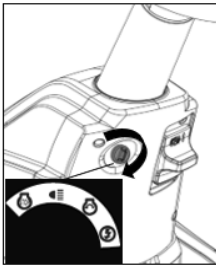
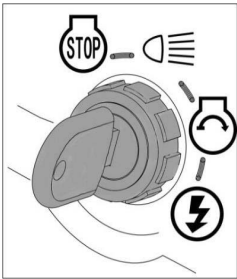

Figure 19
Figure 20
5.2 Ignition lock (Figure 19 & Figure 20)